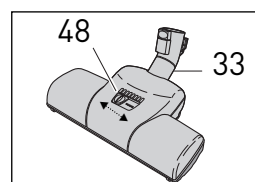

Figure 21
Turbo Nozzle (optional) - Figure 21
The Turbo nozzle (33) has an air-driven rotating brush for gentle brushing of carpets. The Turbo nozzle can be adjusted for high and low pile carpet. To adjust the head for high pile carpet, push the slider button (48) to the right. For low pile carpet, push the slider button (48) to the left. **The slider in Figure 21 is set in the low pile position.** Remove the Turbo nozzle from the telescopic tube to clean. Remove fibers and hair from the brush manually.